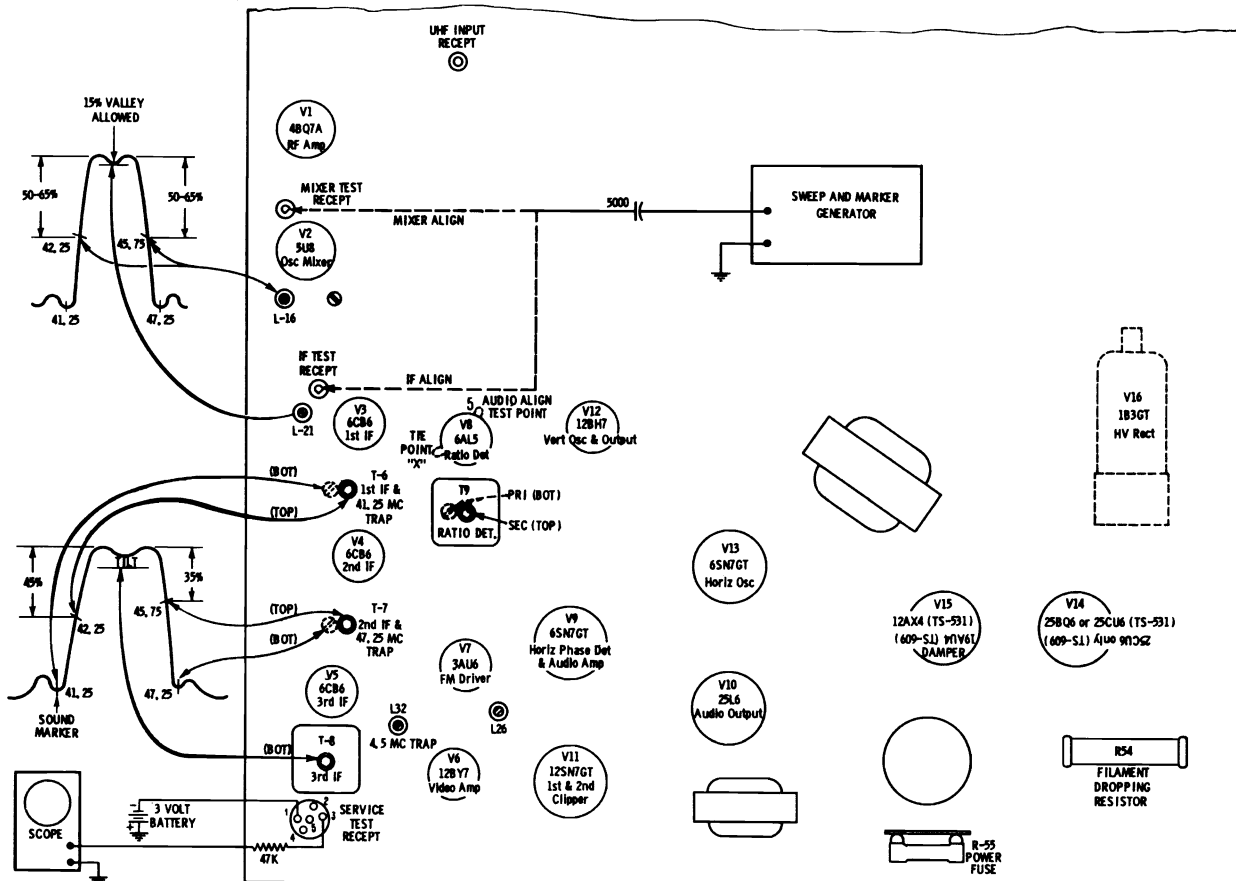

FIGURE 7. TUBE LOCATIONS & IF ALIGNMENT DETAIL
2. Remove antenna and make following connections: (See Figure 7)
5. Move meter to junction of R-48 and R-50 (dummy pin on V-8 socket, marked "X" in Figure 7).